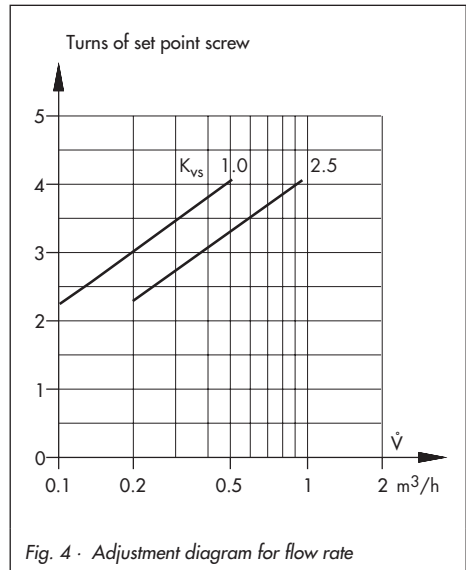

Fig. 4 · Adjustment diagram for flow rate
- ▶ Determine the number of turns required to set the desired flow rate from the diagram (Fig. 4).
- ▶ Turn set point screw (13) counterclockwise the required number of turns.